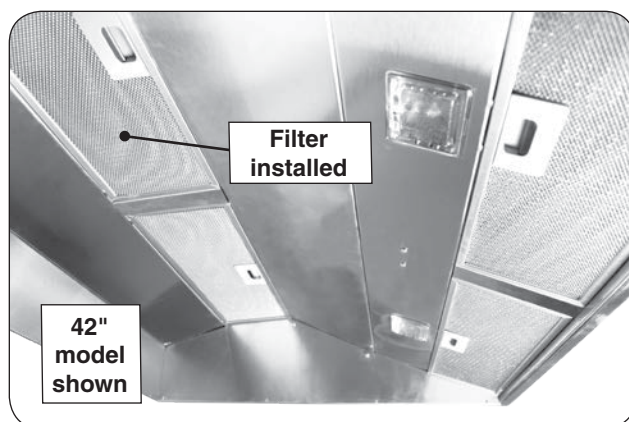

Fig. 20-4 Install filters
2. Install a filter into the vent hood by first pressing in the lever, then aligning the tabs found on the filter into the notches found in the interior of the hood. The filters will secure in place. Repeat for all filters. See Fig. 20-4.